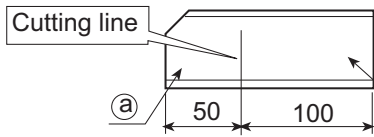

Fig. 4
- (1) Ornament panel can be mounted on ceiling as high as 3 m.
- (2) Please install pad as accessory.
- ① Cut open the pad along cutting line. Use part (a) only and discard part (b). (Refer to Fig. 4)
(Fig. 4)